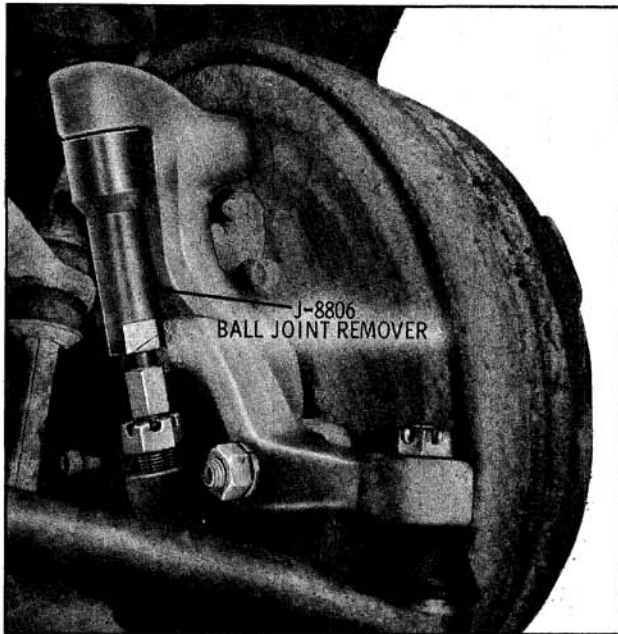

Fig. 9-111 Disconnecting Ball Joint
used as shown in Fig. 9-111 to break ball joints loose from knuckle.
b. Remove the nut to clean the threads. REPLACE THE NUT, LEAVING IT APPROXIMATELY TWO TURNS LOOSE. Lower floor jack slightly, then tap knuckle with a brass drift at ball joint stud. This will loosen stud from steering knuckle. Tool J-8806 can be used as shown in Fig. 9-111 to break the ball joint loose from knuckle.